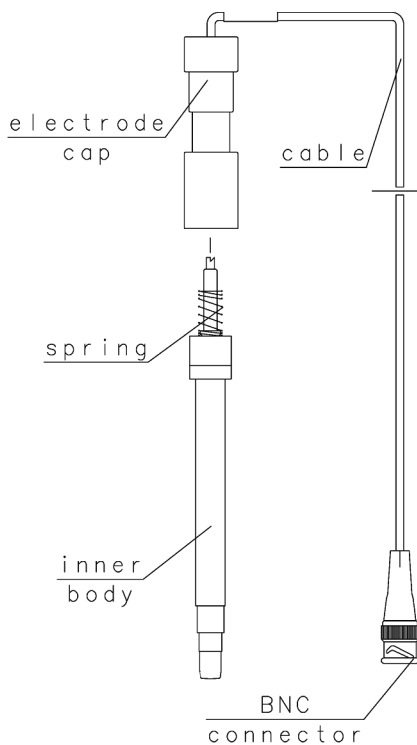

Figure 2 I9121 Ammonia Combination ISE assembly
- 1** Hold the probe upright and unscrew the probe cap (see Figure 2).